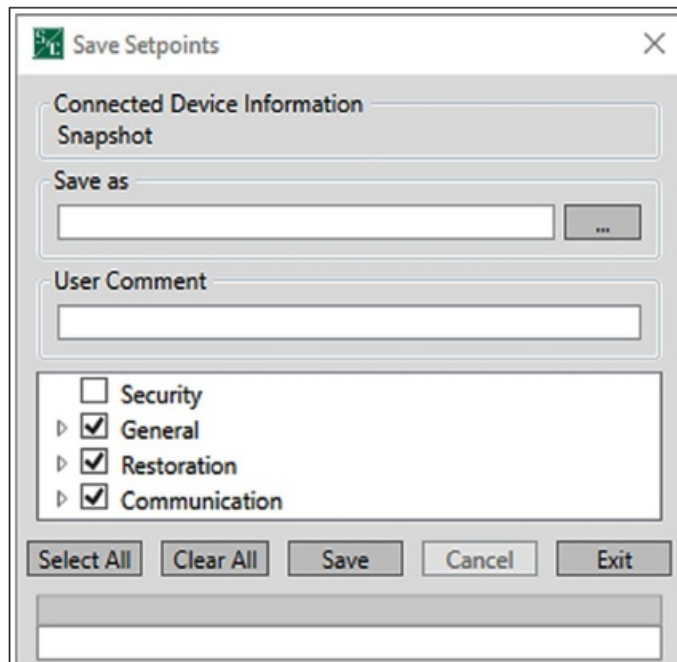

Figure 11. The Save Setpoints dialog box.
- **STEP 2.** In the Save Setpoints dialog box, click on the Select All button followed by the ... button. See Figure 11. The Save Setpoints dialog box will open.